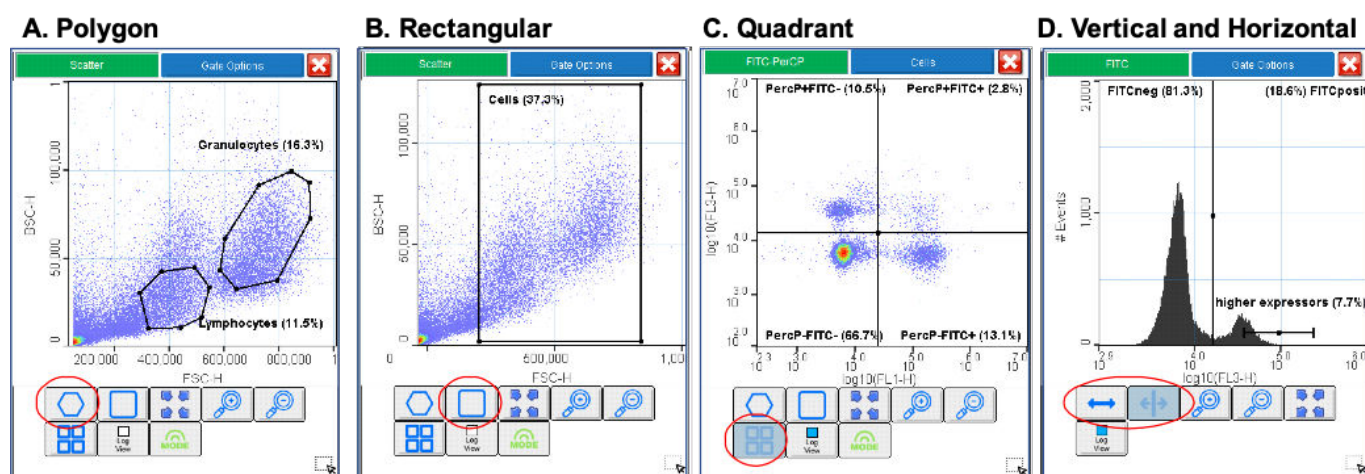

Figure 36. Different types of gates in WOLFViewer.
- **Polygon gates** allow the user to select specific populations within regions with diverse data. They are widely used to select cells based on size (FSC) and complexity (BSC) in bivariate plots (Fig. 36 A).
- **Rectangular gates** in bivariate plots are generally used to select big areas of data and in scatter versus fluorescence plots to distinguish positive cells from negative cells (Fig. 36 B).
- **Quadrant gates** are used to divide the plot into four areas in bivariate plots. They allow the user to determine the single positive cells for each marker as well as both double negative and double positive cells (Fig. 36 C).
- **Vertical gates** divide the univariate plot into two main regions. They are also useful for discriminating positive cells from negative cells (Fig. 36 D).
- **Horizontal gates** can be applied to histograms for analysis of several populations, like positive versus negative and higher versus lower expressor cells (Fig. 36 D).